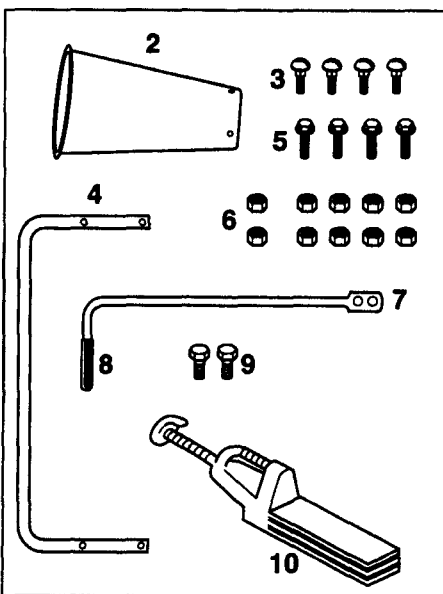

Figure 2-1: Contents of shipping carton (shown at reduced sizes).
2. Remove any packing material from around the unit. Remove the chipper chute (item 2, Figure 2-1) and clutch lever (item 7, Figure 2-1) from the top of the machine. Remove the package containing loose parts. Be sure to check thoroughly for any parts before disposing of the carton or any of the packing materials.
Check that you have the items listed below and shown in Figure 2-1. Contact your authorized dealer or the factory if any items are missing or damaged.
- (1) Chipper chute (No. 2, Figure 2-1).
- (4) 1/4"-20 x 5/8" round hd. carriage bolts (No. 3, Figure 2-1).
- (1) Handle (No. 4, Figure 2-1) - shipped upside down on shredder hopper.
- (4) 1/4"-20 x 1-1/4" flange hd. cap screws (No. 5, Figure 2-1).
- (10) 1/4"-20 toplock nuts (No. 6, Figure 2-1).
- (1) Top section of clutch lever (No. 7, Figure 2-1).
- (1) Vinyl grip for clutch lever (No. 8, Figure 2-1).
- (2) 1/4"-20 x 3/4" hex hd. cap screws (No. 9, Figure 2-1).
- (1) Leaf tamper (No. 10, Figure 2-1).